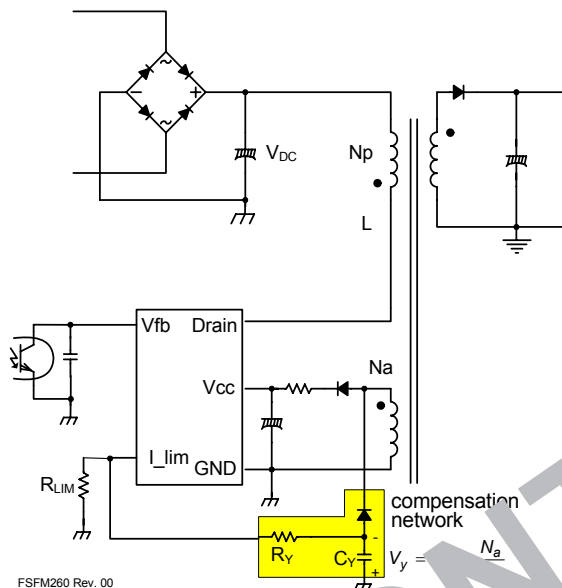

Figure 18. Constant Power Limit Circle
2.3 Constant Power Limit Circuit: Due to the circuit delay of FPS, the pulse-by-pulse limit current increases a little bit when the input voltage increases. This means unwanted excessive power is delivered to the secondary side. To compensate, the auxiliary power compensation network in Figure 18 can be used. R_{LIM} can adjust pulse-by-pulse current by absorbing internal current source (I_{FB} : typical value is 0.9mA) depending on the ratio between resistors. With the suggested compensation circuit, additional current from I_{FB} is absorbed more proportionally to the input voltage (V_{DC}) and achieves constant power in wide input range. Choose R_{LIM} for proper current to the application, then check the pulse-by-pulse current difference between minimum and maximum input voltage. To eliminate the difference (to gain constant power), R_y can be calculated by: